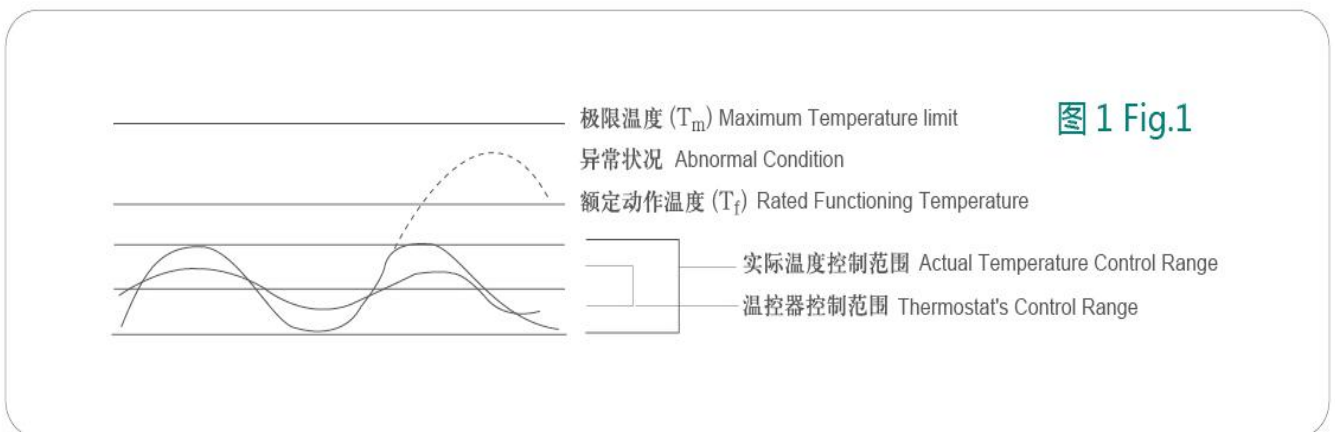

图 1 Fig.1
- 应用产品必须经过测试以确定当出现任何异常状况时，都不会使温度保险丝周围温度超过其极限温度 ( $T_m$ )，这种状况可能出现在一种称为“余热过冲”的状况下。例如：一个热风机在进风口或出风口堵塞时引起温度升高到  $T_f$ ，这时温度保险丝断开电路，但是，一个不正确的设计可能会引起装置提前开路和过度的余热过冲可能会损伤保险丝，应用产品须经过测试以确定在正常的温度波动状态（如控温器的动作与复位引起的加热器温度波动）下，温度保险丝周围温度在控温器的通断循环中不会达到  $T_m$ 。（见图 1）
- The end product should be tested to ensure that potentially abnormal conditions do not exposed the TCO to the temperature exceeding its  $T_m$ . This condition may occur in an "overshoot" situation. For example, an air heater may be subjected to a blocked inlet or outlet condition on attaining its  $T_f$ , the TCO will open. However, an incorrect design may cause the premature opening of the device and excess overshoot may cause shooting or damage to the TCO. The end product should be tested to ensure that under normal cycling condition (such as heater cycling of a thermostat), the TCO never reaches its  $T_f$  during the "on" or "off" cycle. (see Fig. 1)